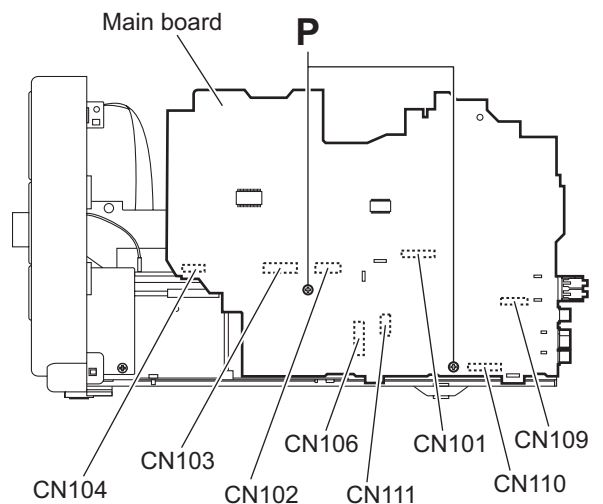

Fig.12
3.1.9 Removing the main board (See Fig.12)
- From the right side of the main body, remove the two screws **P** attaching the main board. (See Fig.12.)
- Disconnect the connectors (CN101 to CN104, CN106 and CN110) on the main board toward this side. (See Fig.12.)
- From the forward side of the main board, disconnect the wires from the connectors (CN109 and CN111). (See Fig.12.)